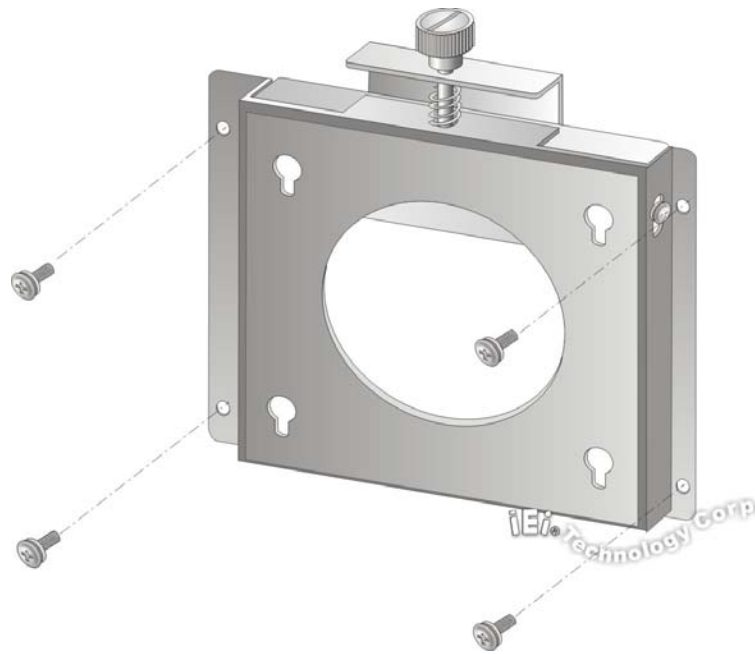

Figure 4-7: Wall-mounting Bracket
- Step 5:** Secure the mounting-bracket to the wall by inserting the retention screws into the four pilot holes and tightening them (**Figure 4-7**).